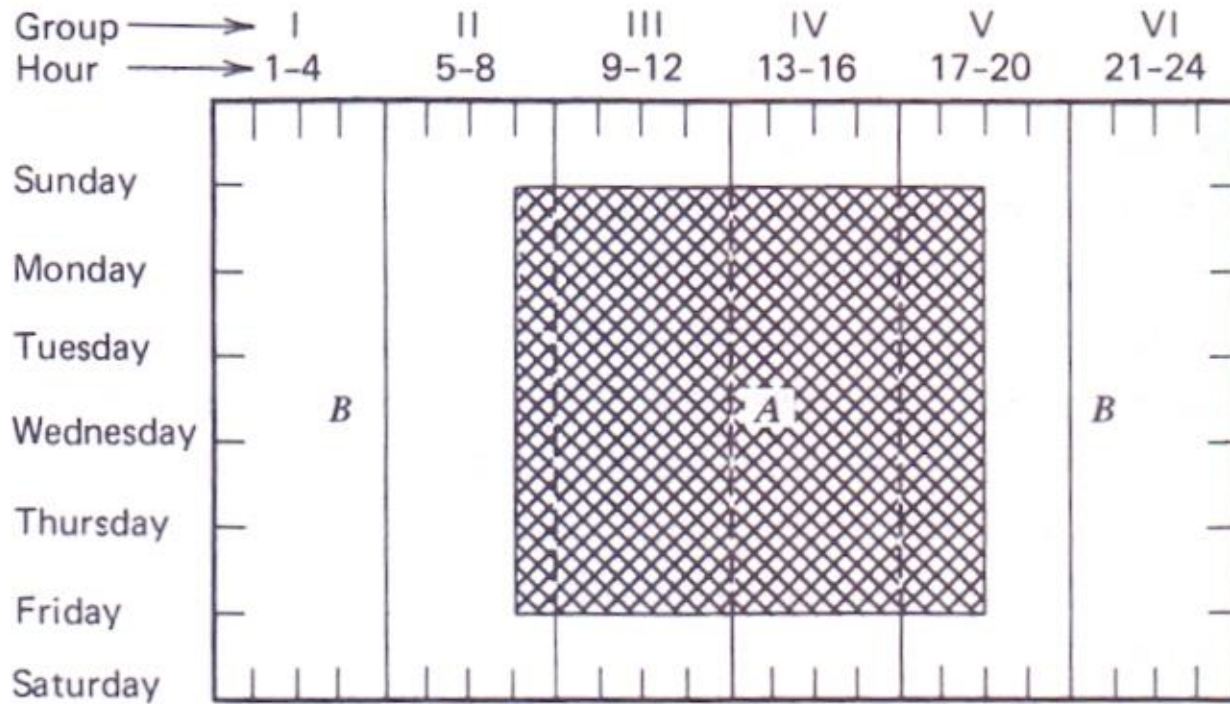

Fig. 1 Converting bin hours into shifts A and B
- Consider a building in Oklahoma City, Oklahoma, which is operated on two shifts as shown in Fig. 1. The load profiles are given by
- Fig. 1 Converting bin hours into shifts A and B